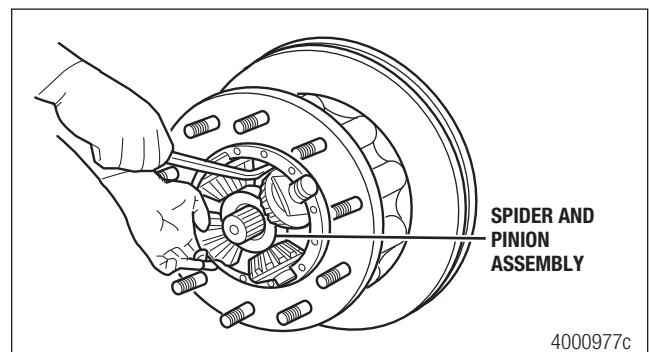

Figure 6.3
9. Remove the wheel end spider and pinion assembly. Figure 6.3.